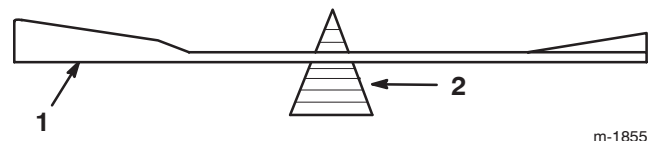

Figure 34
2. Check the balance of each blade by putting it on a blade balancer (Fig. 34). If the blade stays in a horizontal position, the blade is balanced and can be used. If the blade is not balanced, file some metal off the back side of the blade. Repeat this step until each blade is balanced.